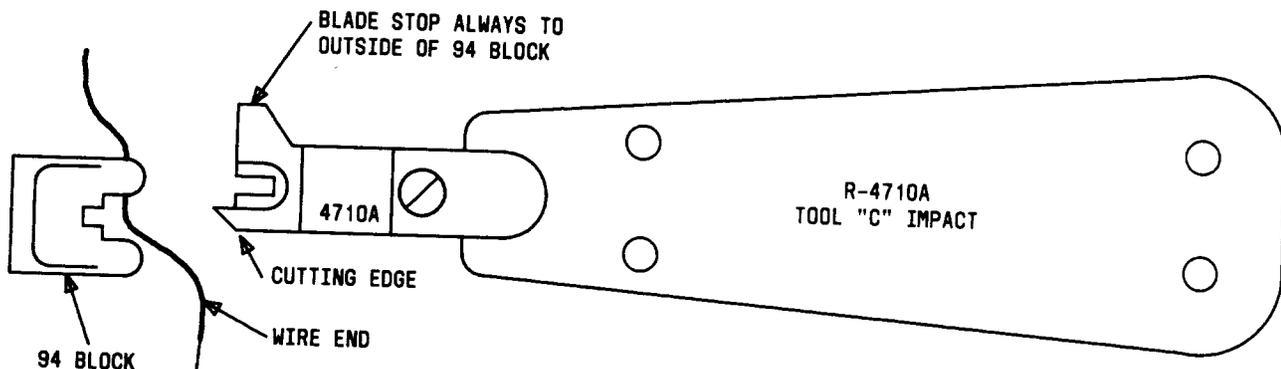

Fig. 5—R-4710A "C" Impact Tool and 94-Type Connecting Block
- (1) Verify that the conductors to be seated have been inserted and fanned as described in paragraphs 3.04 through 3.06.
- (2) Hold the impact tool so that the tool blade is arranged with the elbow on the end of the blade to the outside of the 94-type connecting block at all times. (See Fig. 5.)